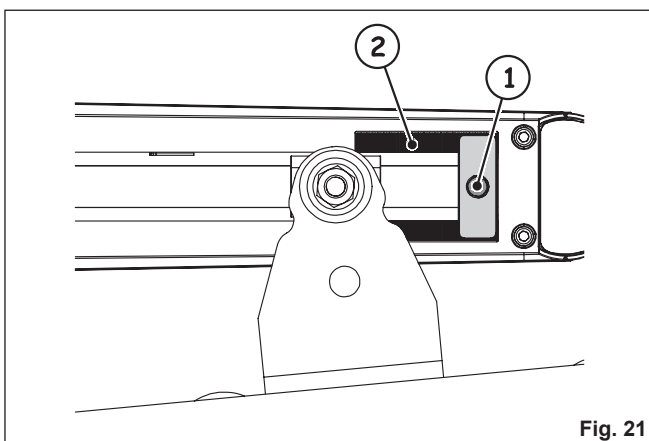

Fig. 21
3. Loosen the securing screw, Figure 21 Ref. 1. The screw does not need to be completely removed.
**⚠ The mechanical stop is coupled to a toothed sector, Figure 21 Ref. 2.**